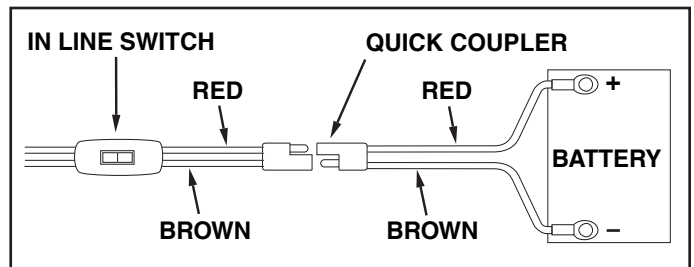

FIGURE 8
15. Attach sprayer to tractor hitch and connect the wiring to tractor battery. Red wire must be connected to positive post on battery or to "HOT" connection on a tractor switch or ammeter. Brown wire may be grounded or connected to negative battery post. See figures 8 and 9.